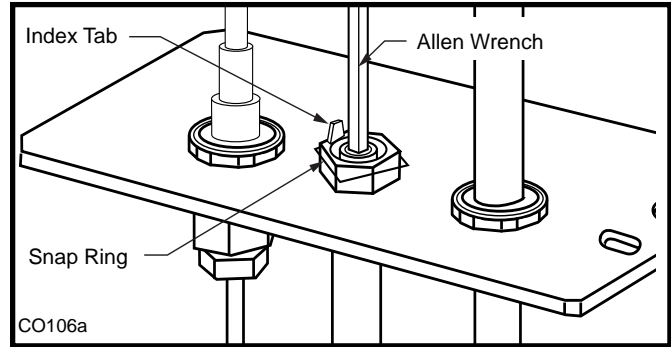

Fig. 60 Remove pilot orifice.
- Remove pilot orifice with allen wrench. (Fig. 60)